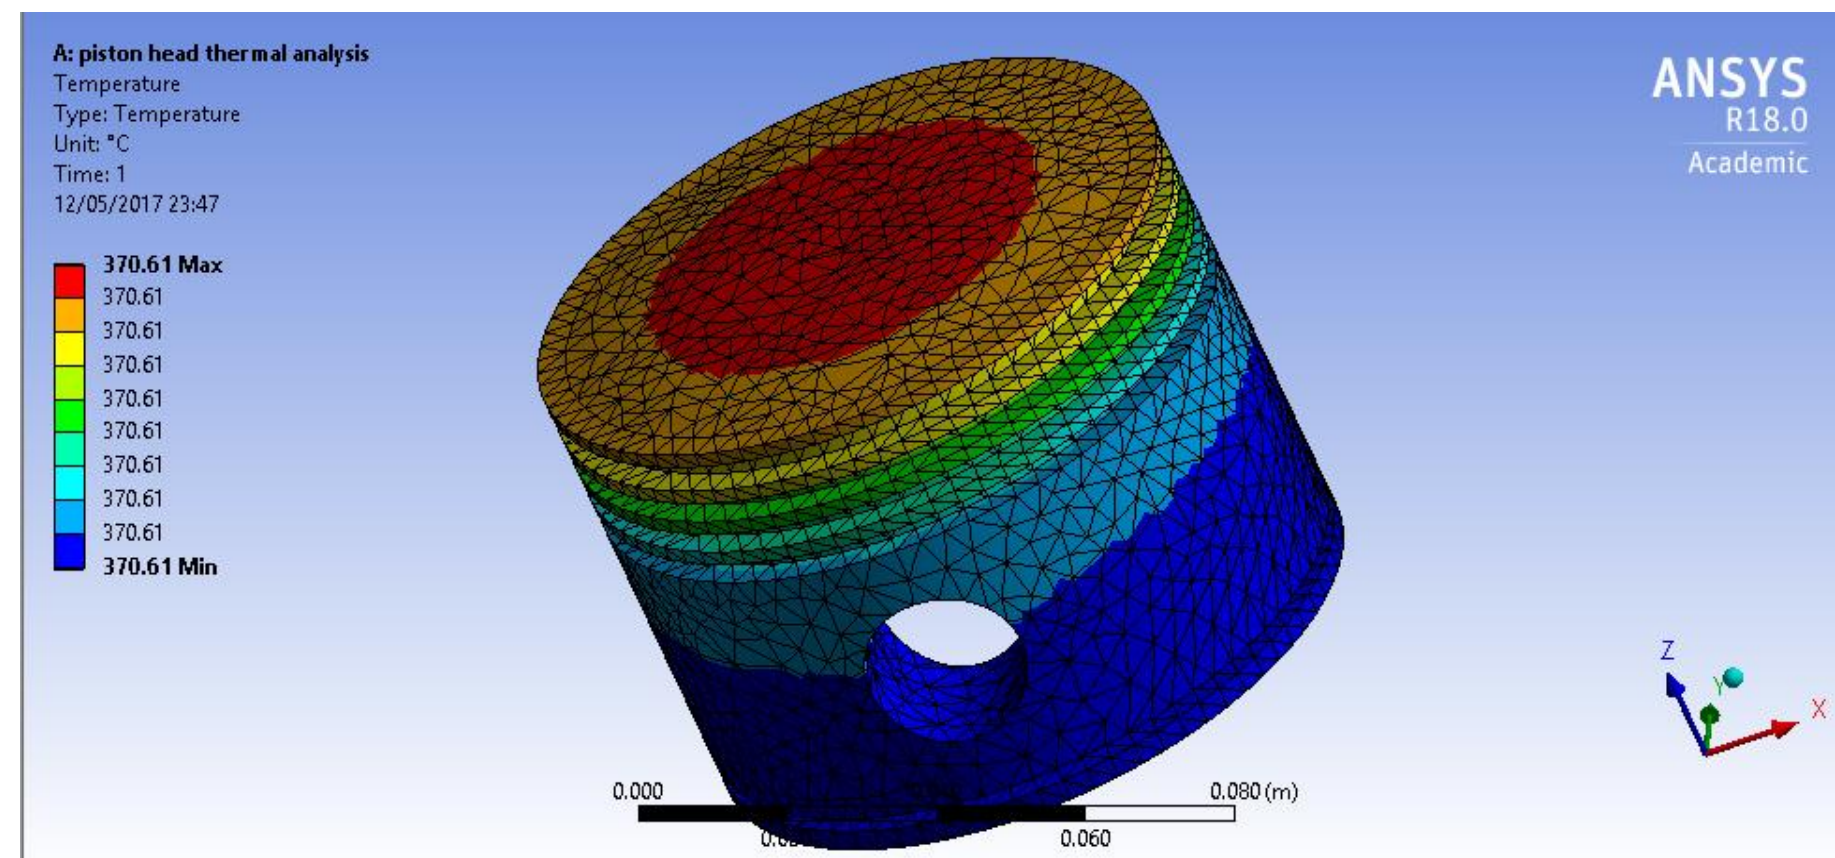
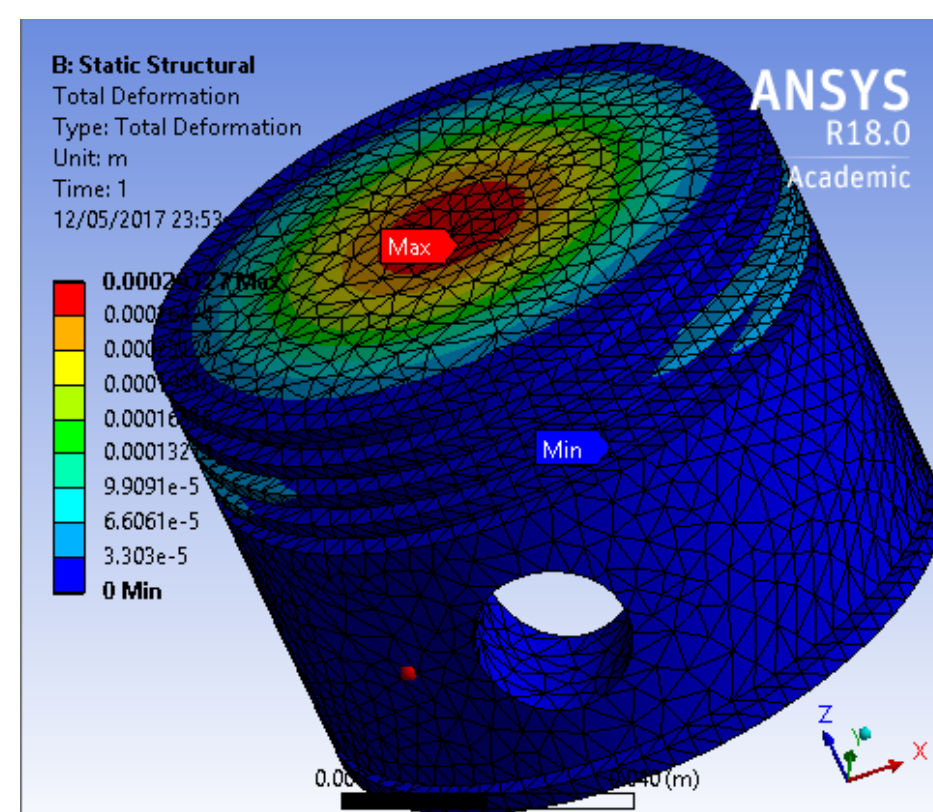

Figure 1- Static and thermal analysis of a Piston head.
Figure 2- deformation of piston head
Figure 1 + figure 2 - Design With Mahek,- Computer aided designing and engineering, (2017) "Static and Thermal analysis of Piston Head", available at: <https://mehakkar.wordpress.com/2017/05/12/static-and-thermal-analysis-of-piston-head/> (Accessed on 25/04/2025)
- Figure 1 shows a piston head that has been tested for heat distribution over a piston head throughout operation.
In both figure 1 and figure 2, the programme used is a widely known engineering simulation software known as Ansys.
- As seen within the article ‘Static and Thermal Analysis of Piston Head,’ Figure 2 shows the deformation of the piston head after operation due to temperature and pressure generated during combustion (Computer Aided Designing and Engineering, 2017.)